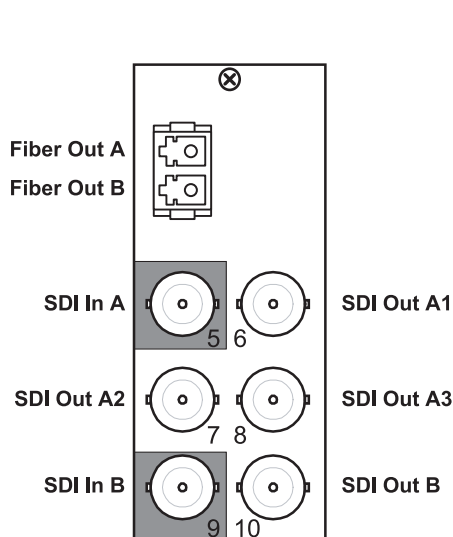

Figure 2.4 Cable Connections for the **8320AR-044** Rear Module
- **8320AR-044** Full Rear Module (R2-6604) — Each card occupies two slots and provides two optical outputs, two SDI inputs, and four SDI outputs. Refer to **Figure 2.4**.